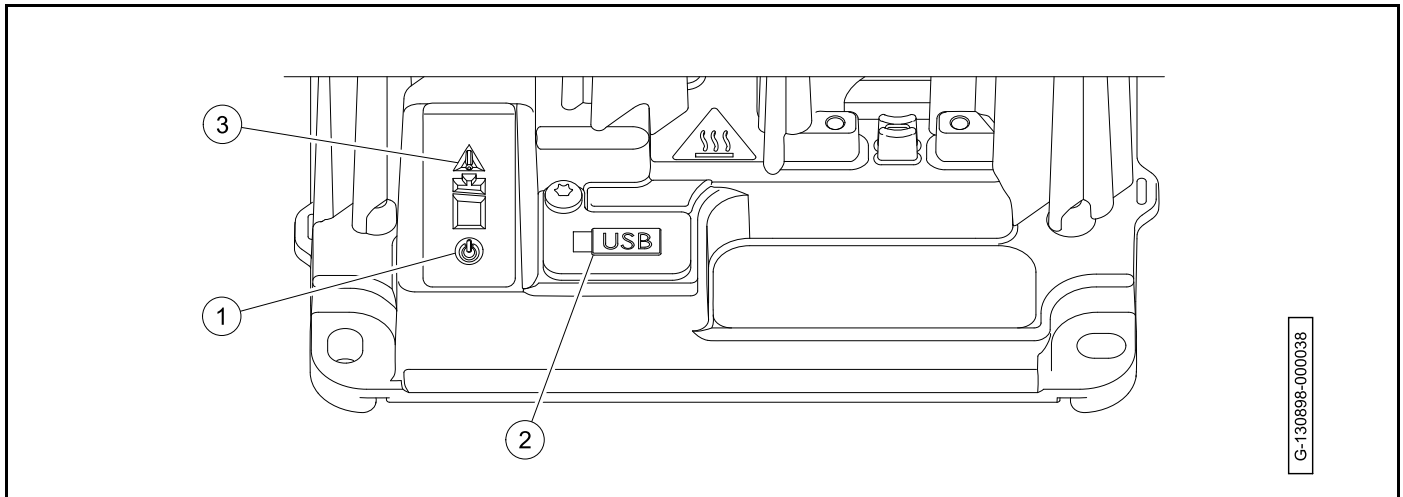

Figure 15-13 USB Dust Cover
12. Wait until only the blue light (1) is on (**Figure 15-13**).
6. Wait until only the blue light (1) is on (**Figure 15-13**).